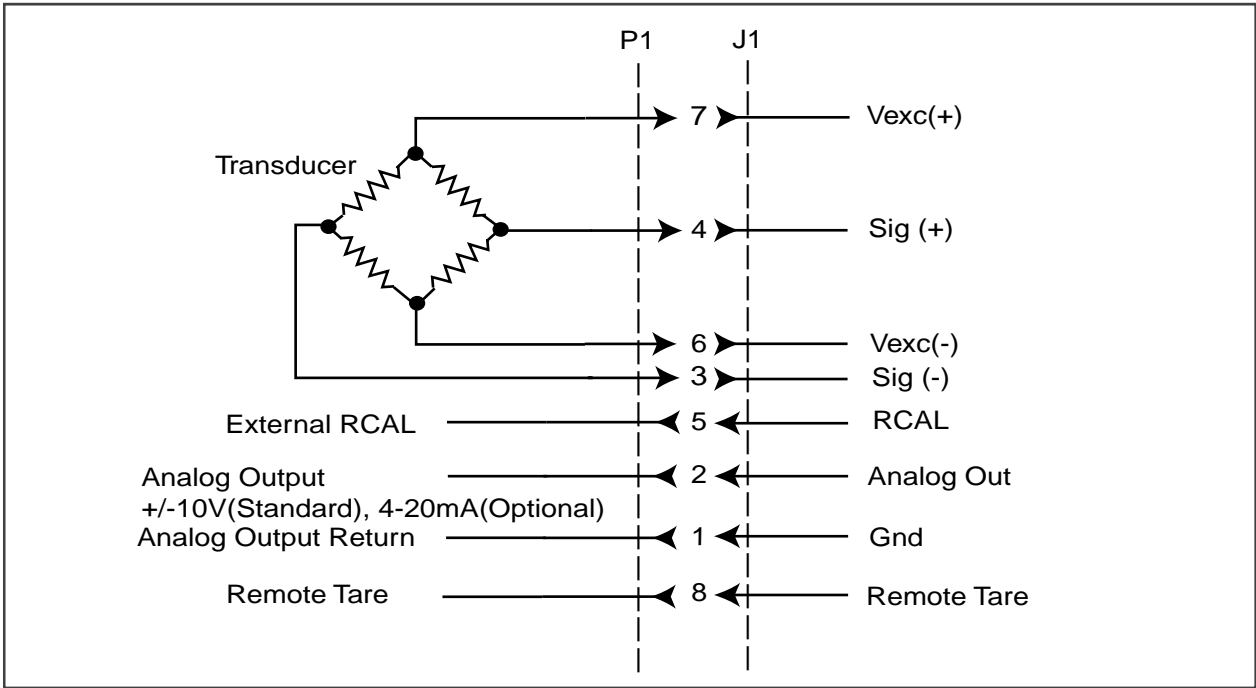

Figure 3. Transducer Wiring
Reference Figure 3 for TRANSDUCER wiring information. Power is applied with a 3-prong AC power cord. The instrument is protected by a 250V, 250mA fast acting 5mm fuse. The fuse holder is an integral part of the input power connector. A spare fuse is provided in the fuse holder. Internal solder jumpers are provided to allow 115V AC or 230VAC operation (Reference Figure 6 on page 5).
Reference Figures 3 and 4 for proper input and output signal wiring.
1. The first method uses actual or simulated ZERO and FULL SCALE (FS) inputs. Actual inputs may come from a strain gage transducer loaded with calibrated weights. Simulated inputs may come from a strain gage bridge simulator.
2. The second method utilizes an RCAL resistor to simulate a load on a strain gage bridge. The RCAL resistor is activated when the RCAL (S5) switch is depressed. Reference Figure 3 for location of S5.
1. Connect the strain gage transducer to the instrument using Figure 3 as a reference. Do not apply any load to the transducer.